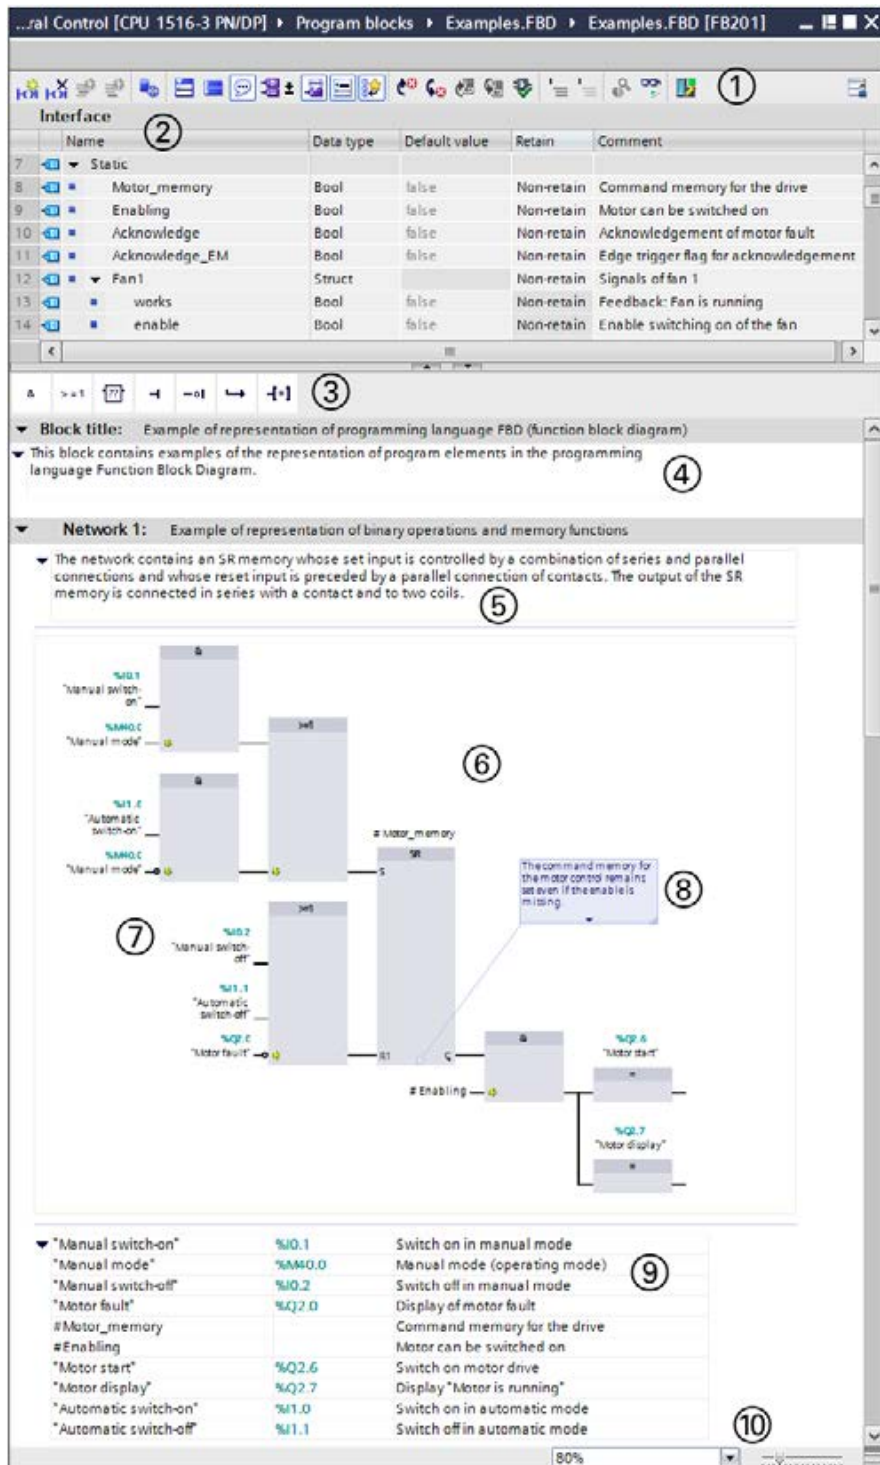

Fig. 8.1 Working window of the program editor for FBD programming
Fig. 8.1 shows the program editor's working window. The icons in the toolbar ① can be used to set the display of the working area, e.g. the display of the network comments and additional functions such as monitoring of the program status. The interface of the block ② in the upper part of the working window lists the block parameters and local data. The favorites bar ③ can be expanded by additional program elements. It can also be hidden. Each block has a heading, the block title, and a block comment ④, which can be used to explain the function of the block. These are followed by the first network with its number, heading and comment ⑤.